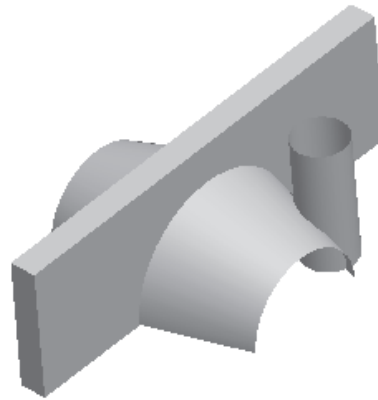

Figure 14-95 Model after creating the fill surface
6. Exit the **Sketcher** environment and then exit the **Fill** dashboard by choosing the **Build Feature** button. The fill surface is created, as shown in Figure 14-95.